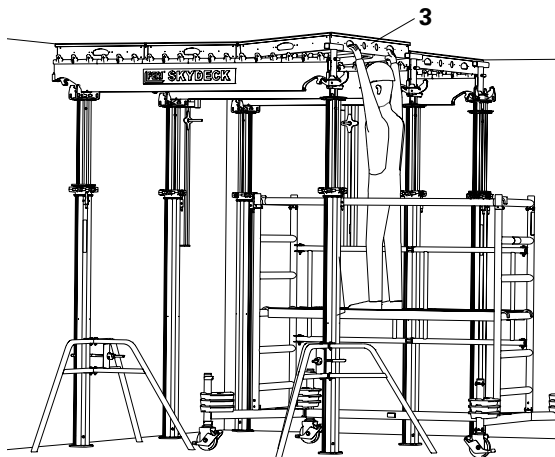

Fig. A4.10
6. Insert panels (3). (Fig. A4.10)